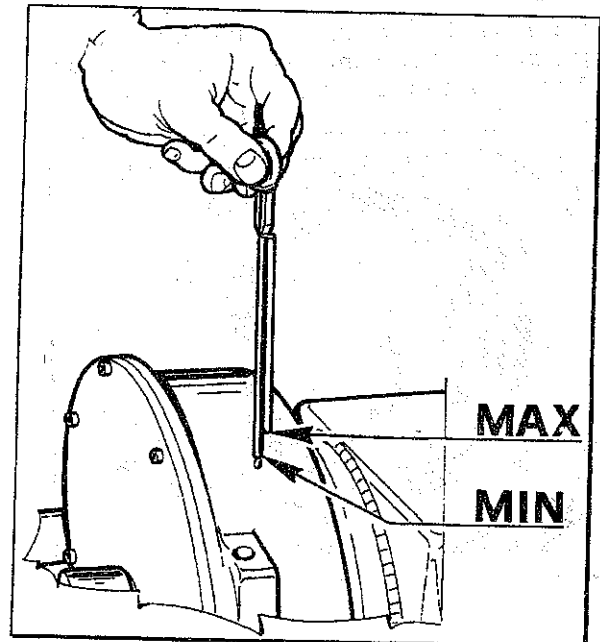

Fig.54
- Check once a month the oil level of the speed reducer (Fig. 54). The chuck arm should be completely lowered when the check is performed.